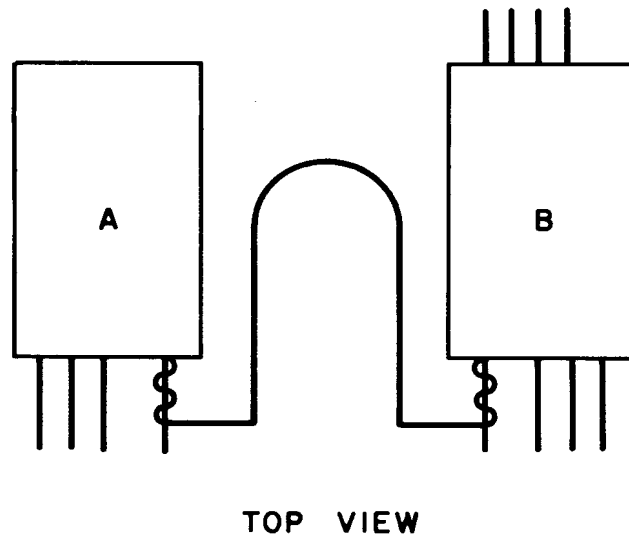

Fig. 6 - Method of Dressing Strapping Between Terminal Strips A and B
2.08 To facilitate removal of plug-in assembly, strapping between terminal strips A and B shall be as shown in Fig. 6.